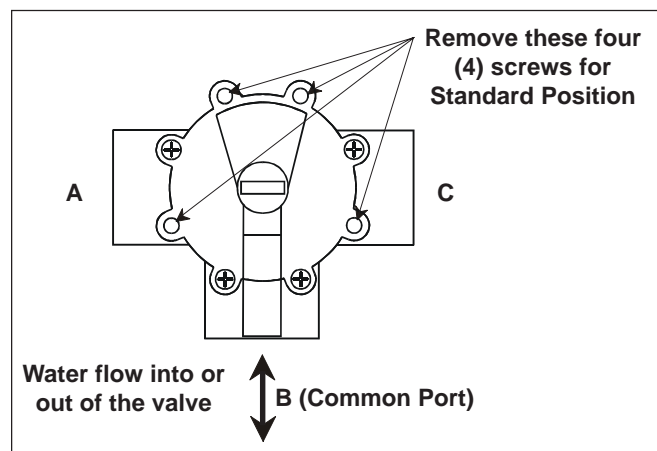

Figure 1. Standard Plumbing.
1. **Standard Plumbing** position is with the middle port (B) as the incoming or common port to the valve (see fig. 1).